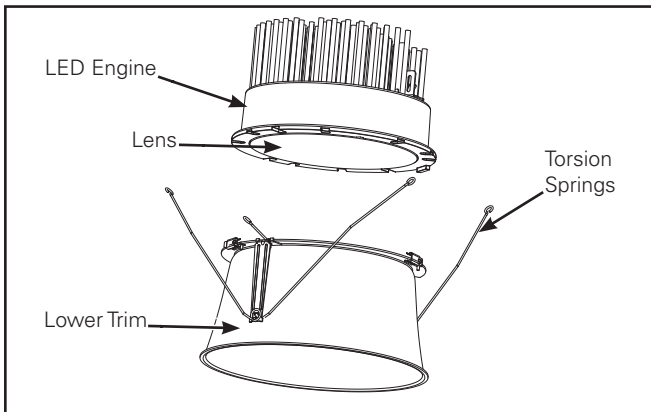
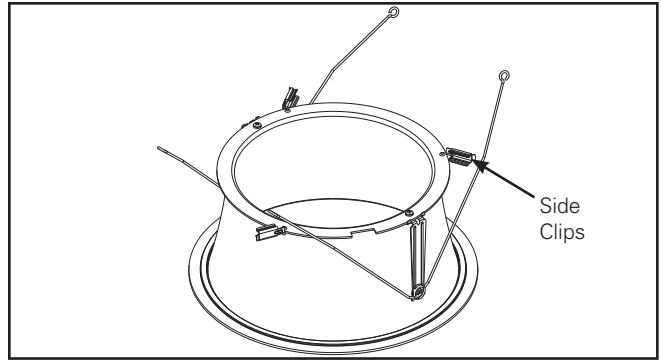

Figure 2. Lower Trim Assembly
Figure 3.
1. Remove reflector from protective packaging. Remove plastic trim ring and discard. Remove LED engine from protective packaging (Figure 2). Rotate sideclips (3) outwards (Figure 3)